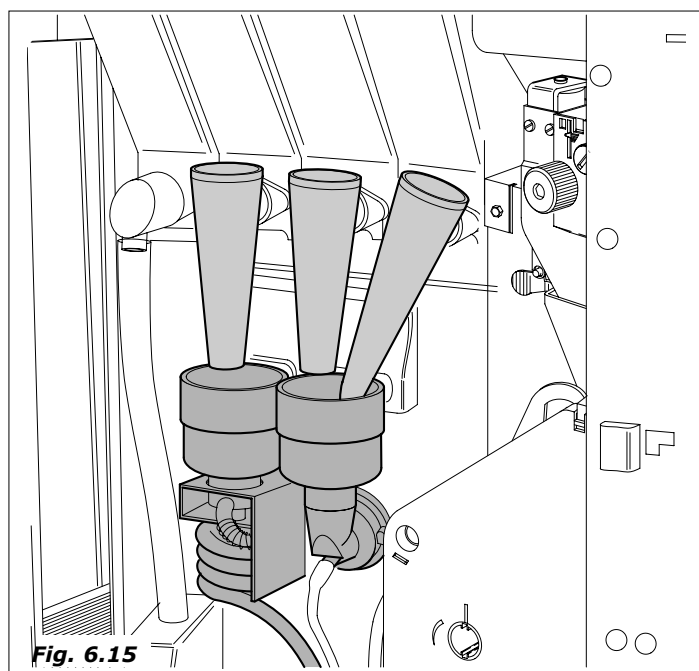

Fig. 6.15
- at the end of the water filling (Fig. 6.15), effect a cleaning cycle of the mixer group so as to fill all the circuits and remove eventual residues from the boiler.